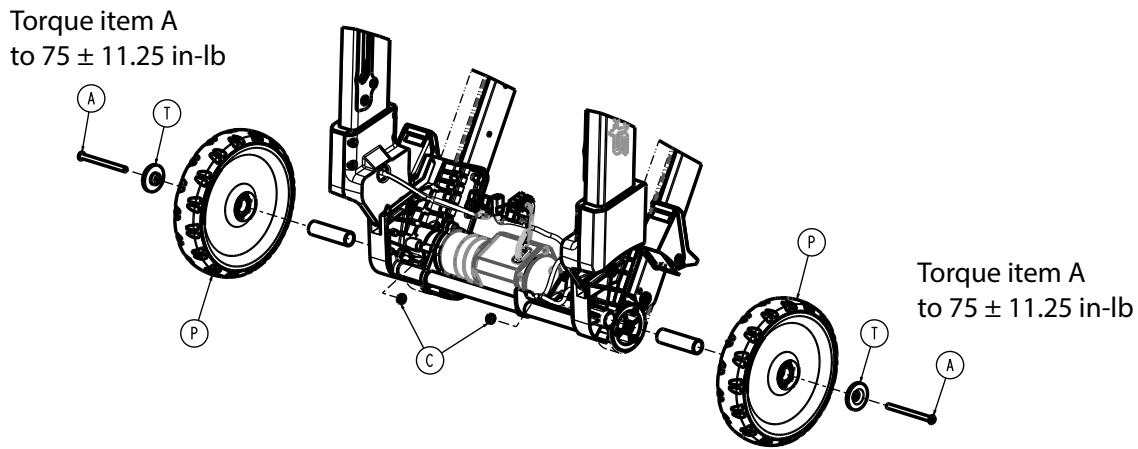

Figure 15 –
7. Using a 5/32" hex wrench, remove the button head cap screw (A), cap (T), and wheel assembly (P) (Figure 15). Save all parts.
- Use one hand to hold the lock nut (C) in the upright assembly (Figure 15). Discard the nut if you replace the wheel assembly.
- Using a torque wrench and a 5/32" hex wrench, torque the button head cap screw (A) to 75 ± 11.25 in-lb when you reinstall.